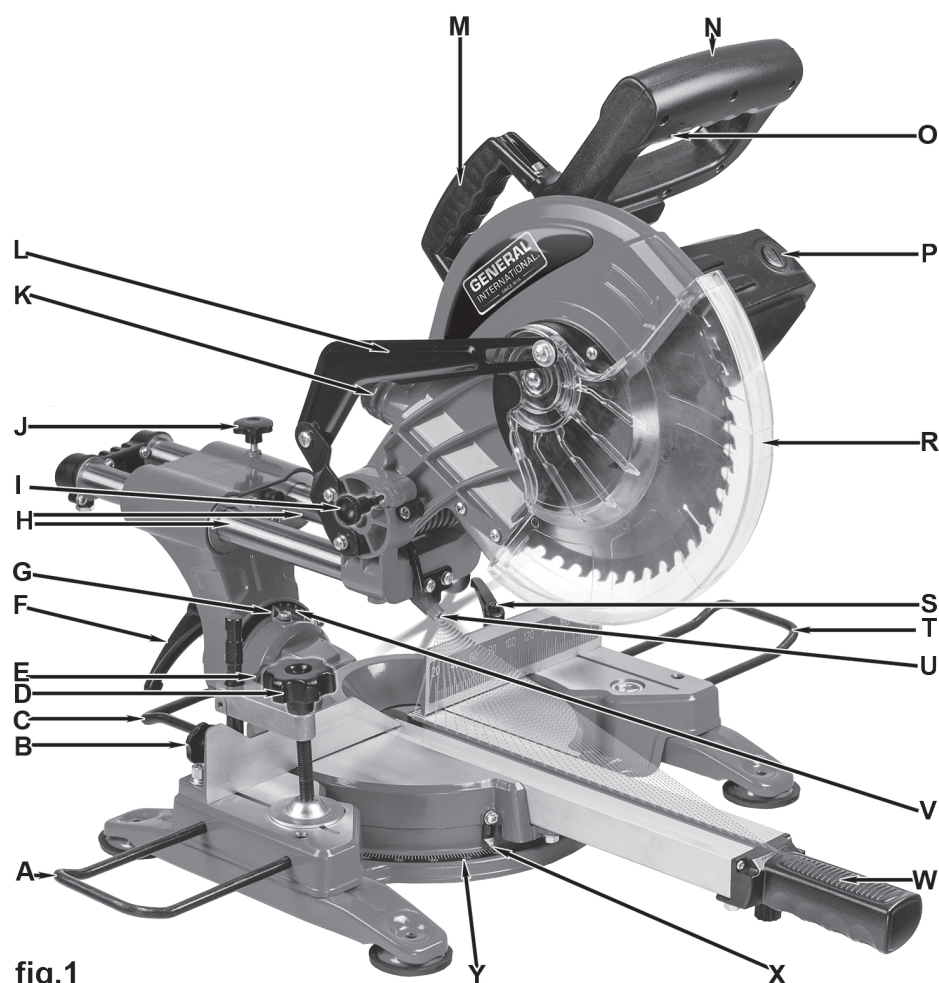

fig.1
- To disengage the cutting head from its shipping and storage position, push down lightly on it and pull out the spring-loaded head locking button on the left side shown at I, fig.1. Turn it a quarter turn until the pin in the shaft rests in the small groove to hold the button out.
Two table side extensions (A & T, fig.1 & 2) are included with your saw to help support longer pieces of material.
2. Slide the shaft into the hole and then tighten the hold-down clamp retention screw (B, fig.1 & 2). Grooves around the shaft allow the screw to hold the shaft from moving vertically while allowing it to rotate for easy clamp positioning.
- Tighten the hold-down clamp fine height adjustment knob (D, fig.1 & 2) to secure the workpiece.
1. Connect a dust collection system hose (not included) to the dust collection port nozzle on the back of the metal guard (J, fig.1).
3. Turn on the laser cutting guide, using the switch on the top surface of the handle assembly (M, fig.1 & 2).
4. Squeeze the trigger button (N, fig.1 & 2) in the handle to start the saw with the cutting head in the raised position and the blade fully enclosed in the retractable blade guard (Q, fig.1 & 2).
1. Lock the head in the upright, 0° bevel position using the slip-lock saw bevel locking lever (F, fig.1 & 2).